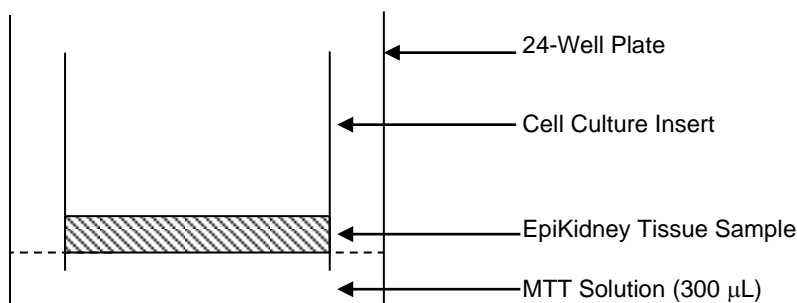

Figure 4: Incubation in the MTT Solution (37°C, 95% RH, 3 hrs, 5% CO_2)
f) MTT loading: Return the EpiKidney samples in the 24-well plate to the incubator for 3 hours \pm 5 minutes. See **Figure 4**. *Note: Deviations from the 3 hour time for MTT incubation will result in different readings.*